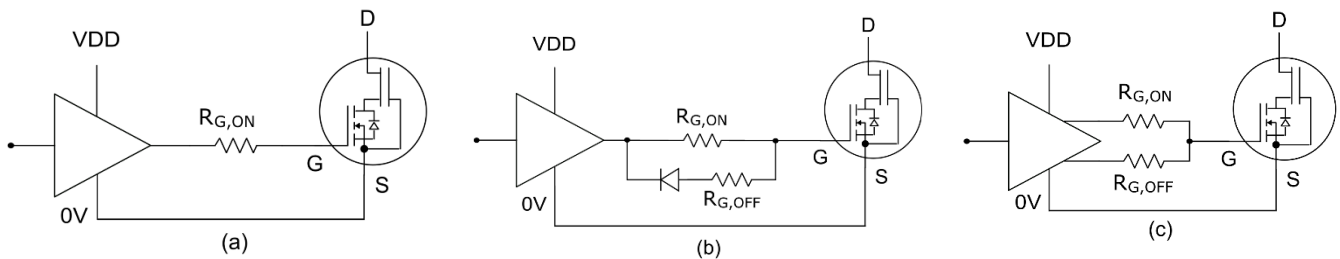

Figure 1. Standard Cascode GaN Drive
Figure 1 shows three common drive circuit configurations:
- Figure 1(a) shows a single resistor controlling both the turn-on and turn-off slew rates.
- Figure 1(b) shows a configuration where separate resistors are used to tune the turn-on and turn-off transients. A separation in turn-on and turn-off gate loop is achieved by using a diode to control the direction of the gate current. The recommended gate resistance values depend on product $R_{DS(on)}$ and are reported in each product datasheet.
- Figure 1(c) shows a configuration that can be implemented with a gate driver which provides separate source and sink outputs. This allows the use of dedicated $R_{G(ON)}$ and $R_{G(OFF)}$ to independently control rise and fall transients without an additional diode.